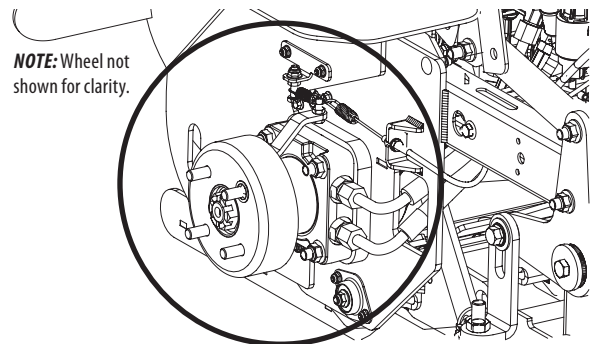

Figure 17
- Clean around and near the transmission, axle and the fan area. See Figure 17.